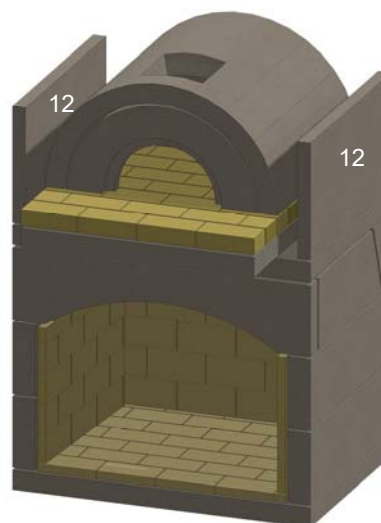

Figure 25. Oven Enclosure Walls
S. Install the enclosure side walls (12). Temporarily support the wall panels to hold them plumb and in place until the end panels are installed in the next assembly step. Completely bed and fill the joint with mortar. See Figure 25.